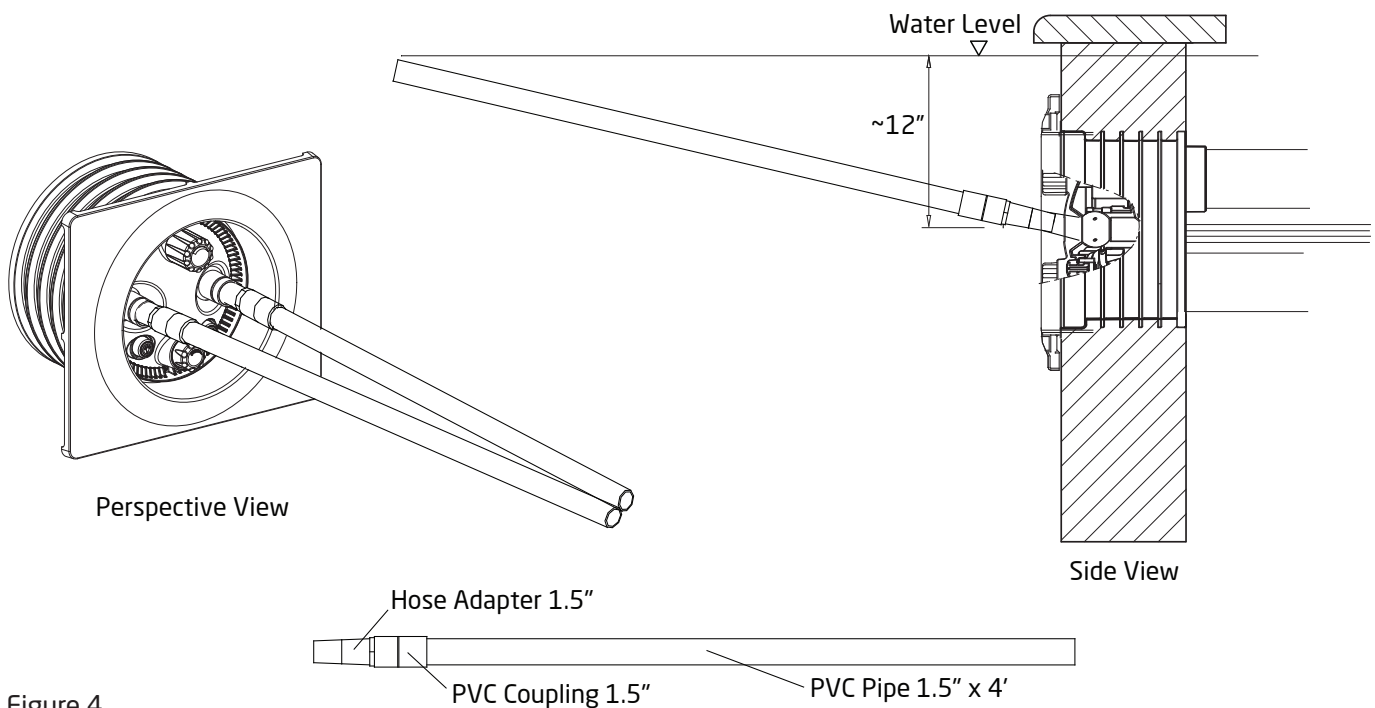

Figure 4
4. Bring the ends of the adjustment tools together so they are touching in between the jet housings. Then raise the tools together so the ends touch the water surface. (See Figure 4)